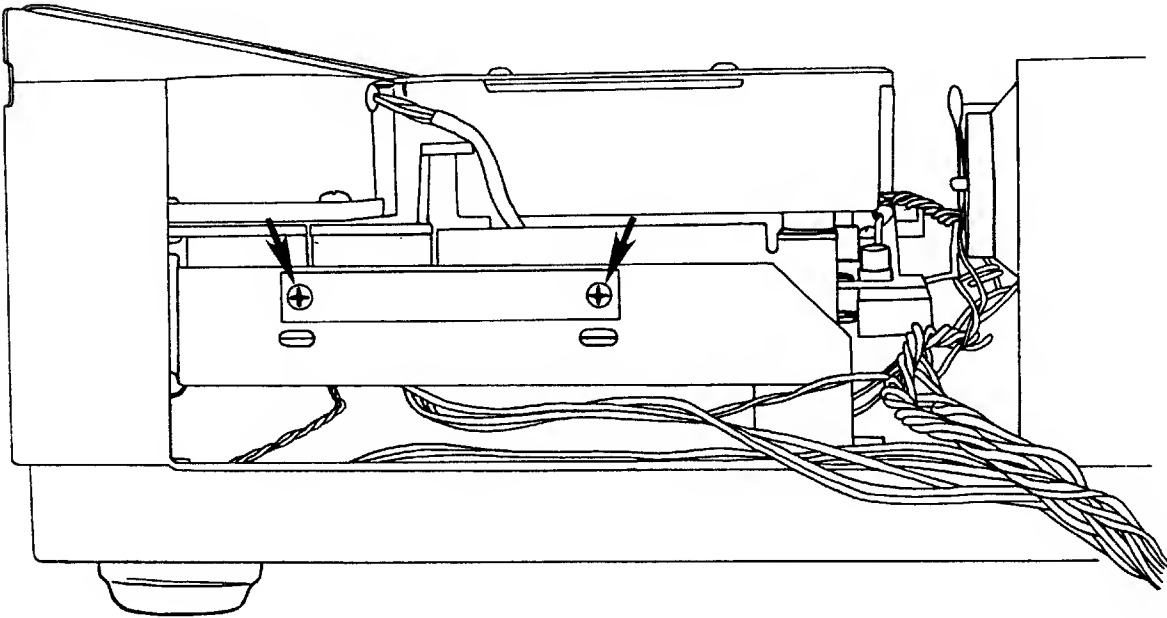

Figure 6-1: Side Mounting Screws, Hard Disk Drive
1. Remove the two side mounting screws from the hard disk. These screws are on the same side as the power supply. (See Figure 6-1).